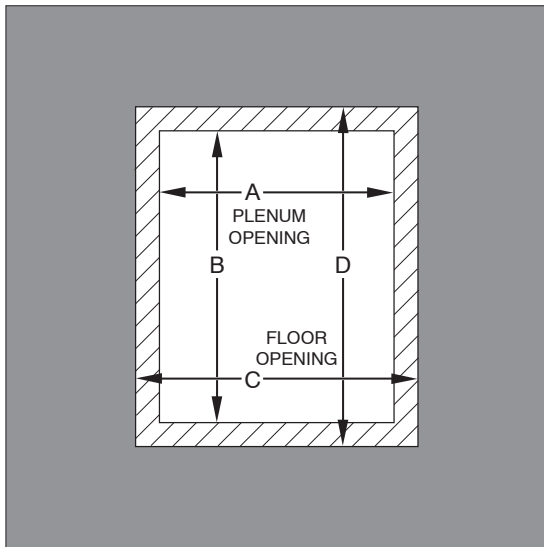

Fig. 19 - Floor and Plenum Opening Dimensions
2. Construct hole in floor per dimensions specified in Table 1 and Fig. 19.
3. Construct plenum to dimensions specified in Table 2 and Fig. 19.